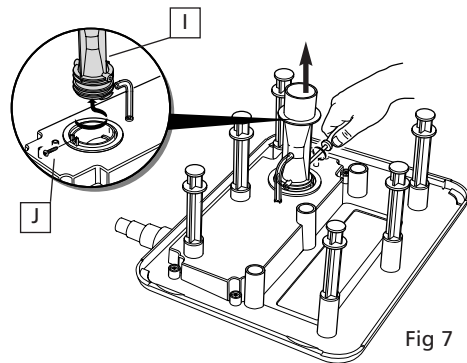

Fig 7
- 7.4 The venturi outlet (see Fig 'I' 7) from the UVC chamber can be removed for cleaning if required. To remove, unscrew the venturi locking screw (see 'J' Fig 7) Twist and unlock the bayonet and lift the venturi away. To replace, repeat the above in reverse